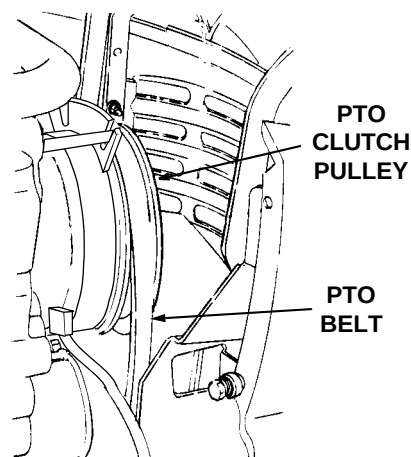

Figure 55
9. Open the tractor hood and remove the forward end of the PTO belt from the PTO clutch pulley on the front of the engine (See Figure 55).